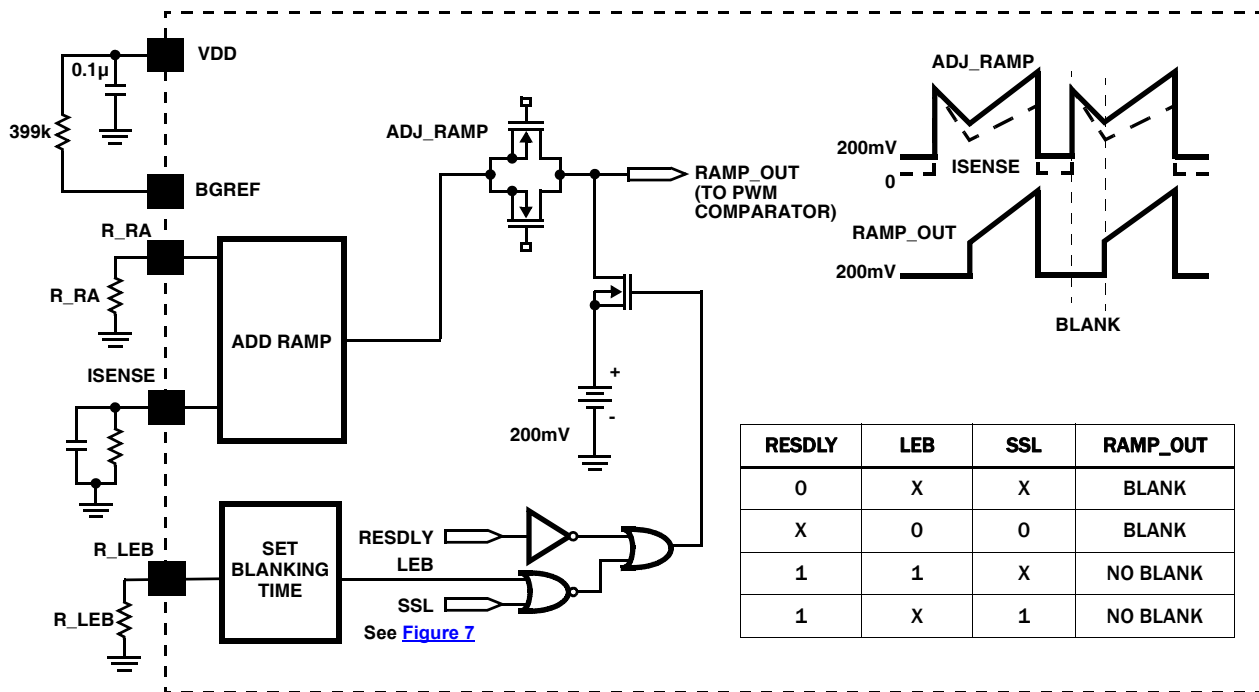

FIGURE 12. SIMPLIFIED RAMP ADJUST AND LEADING EDGE BLANKING CIRCUITS
- The ramp adjust block adds an offset component (200mV) and a slope adjust component to the ISENSE signal before processing it at the PWM Logic block, as shown in Figure 12. This ensures that the ramp voltage is always higher than the OAGS (ground sensing opamp) minimum voltage to achieve a “zero” state.
- Typical ramp values are hundreds of mV over the period on a 3V full scale current. Too much ramp makes the controller look like a voltage mode PWM and too little ramp leads to noise issues (jitter). The amount of ramp ( $V_{ramp}$ ), as shown in Figure 12, is programmed with the R\_RA resistor and can be calculated with Equation 10.